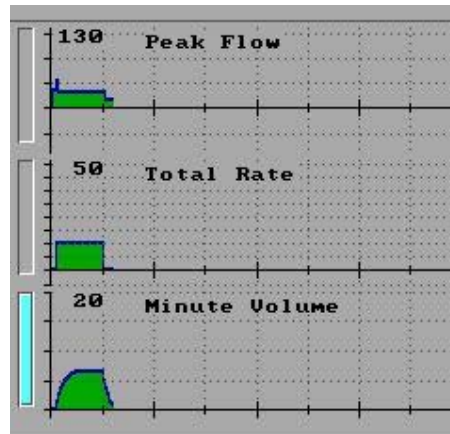

Figure 105: The Minute Volume Graph is Selected
1. Turn the Control Knob to the **Select** bar of the Trend graph you want to change (Figure 105).